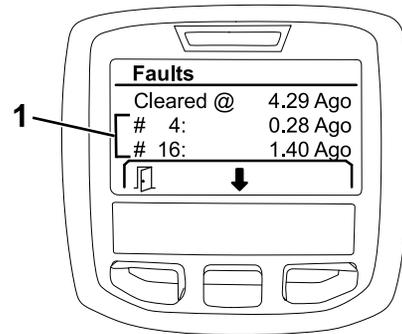

Figure 27
2. Review the faults listed in the Faults screen (Figure 27).